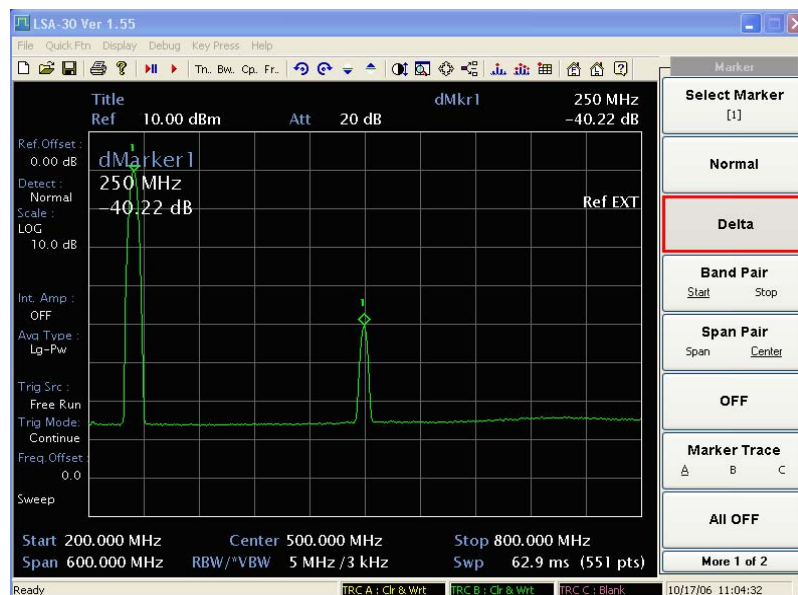

Fig. B-17 Harmonic distortion
- 3 To measure the second harmonic distortion, press [Peak]: the marker then locates on the highest-level signal, the 200 MHz fundamental. Press [Marker], [Delta] 250 MHz, then the marker locates in the second harmonic signal. The signal shown in Fig. B-17 produces harmonic distortion products in the analyzer input mixer.